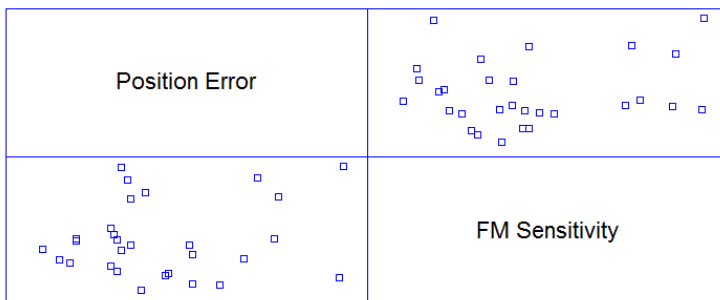

Figure 4.1: Correlation between Positioning Error and FM Sensitivity.
- (d) An Electrical Engineer would like to understand Probing Test failure due to Co-planarity issue when he opens the unit for Failure Analysis. He would like to comprehend the Correlation between Positioning Error and FM Sensitivity. After data collection as in Figure 4.1, he continued to perform Pearson Correlation and gotten results.